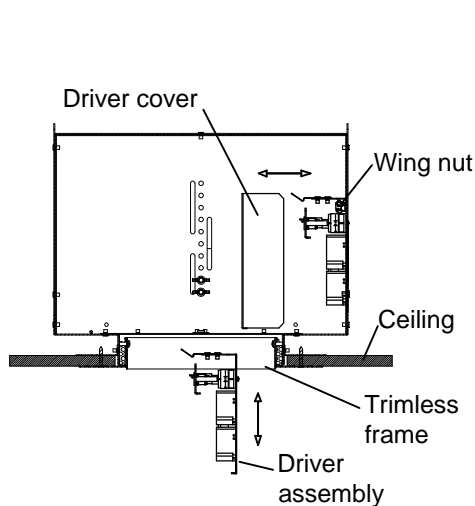
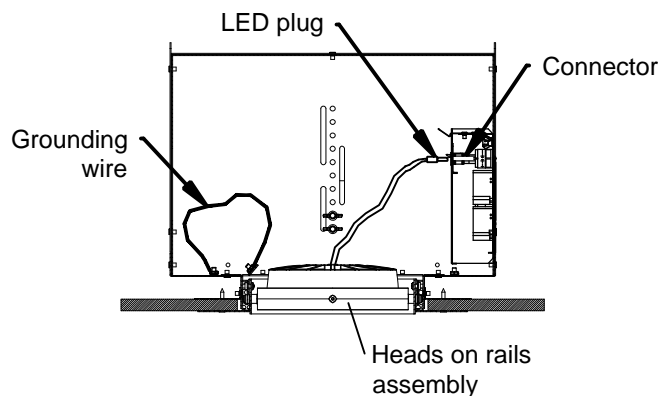

Fig. 10
Fig. 8
- a. Disconnect LED plug from socket on the driver assembly (Fig. 8). Remove the driver cover from the driver assembly by pushing springs (Fig. 10).
- c. While insuring any excess wiring is within the driver box, replace the driver cover (Fig. 10).
10. Connect the LED plugs to the connectors on the driver box and grounding wire to the heads on rails assembly (Fig. 8).
3. Remove driver cover, unscrew the wing nuts, remove the driver assembly from the housing assembly (Fig. 10 and 11).